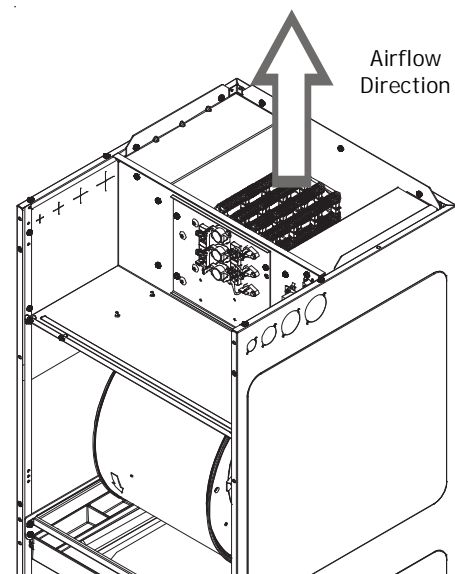

Figure 1
2. Remove and retain the four (4) screws securing the cover plate. Remove and discard the cover plate.
4. Slide the electric heat kit into the opening in the air handler, making sure the direction of airflow decal attached to the electric heat face plate is pointing in the correct direction, and secure the electric heat face plate using the screws removed in Step 2. Use caution to not bend or damage the electric heating elements, the limit switches or fuses during this process. See Figure 1.